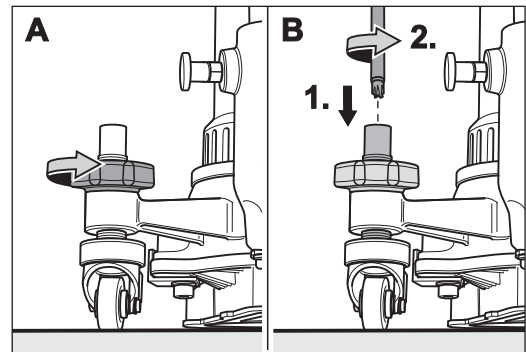

Fig. 51 Undo the locknut on the guide roller.
- 3 Loosen the locknut of the guide roller to be adjusted (Fig. 51, A).
If the locknut is screwed on too tightly, you can turn the guide roller counterclockwise with the universal spanner to loosen the locknut (Fig. 51, B).
- 3 Loosen the locknut of the guide roller to be adjusted (Fig. 51).